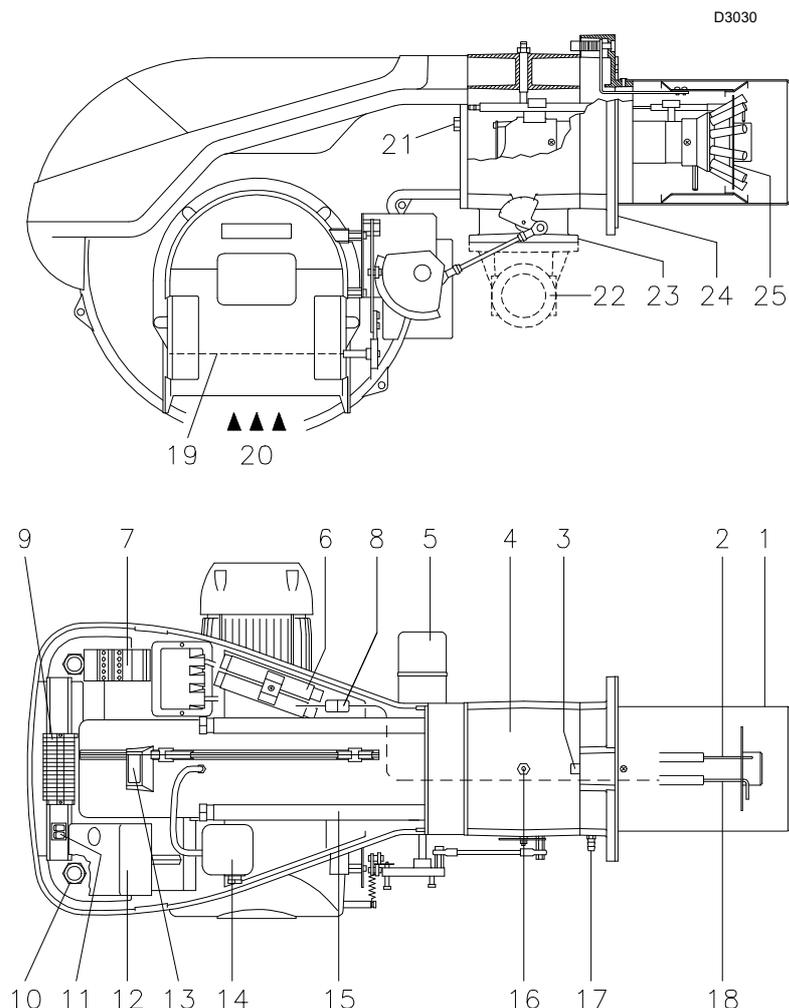

Fig. 4
- Pressure at test point 7 (Fig. 4 on page 12) with zero pressure in combustion chamber and at maximum burner output.
if the control box button 12)(**red led**)(Fig. 4) lights up, it indicates that the burner is in lockout.
to release press the button on the thermal relay 7)(Fig. 4).